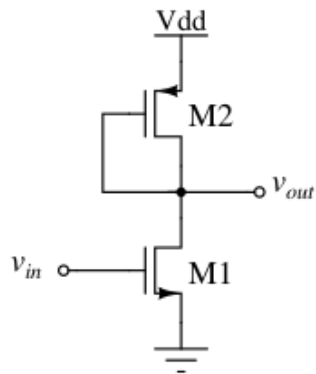

Figure 1: Common-source amplifier with diode connected load.
1. You have done the schematic level simulations of a CS amplifier as shown in Fig. 1 in Assignment